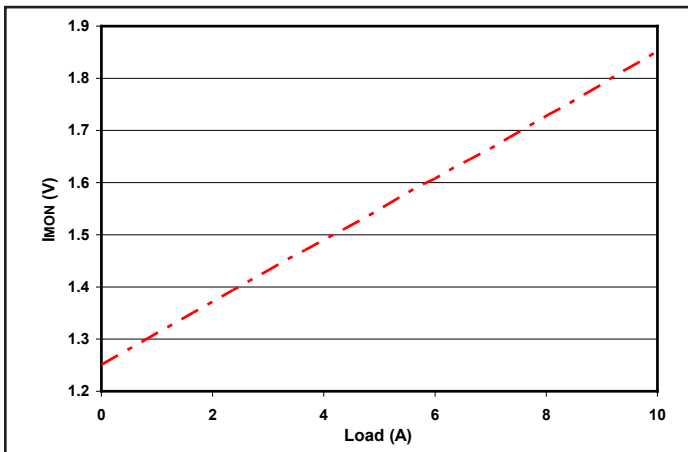

Figure 9: Imon pin voltage vs. load current at 24V input and 13.8V output. Load capacitance: 100 $\mu$ F electrolytic cap. C option only.
**Current monitor:** The  $I_{mon}$  pin voltage tracks the output current, as shown in figure 9. Zero load current is 1.25V and maximum rated load current is 1.83V. This pin has a 49.9 Ohm output impedance.